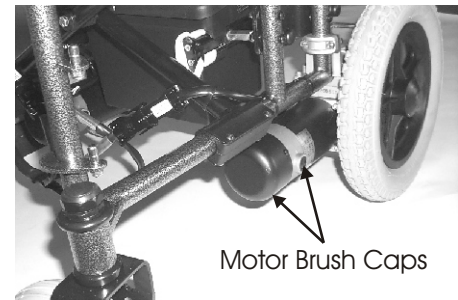

Fig. 18
1. Unscrew the motor brush caps (Fig. 18).